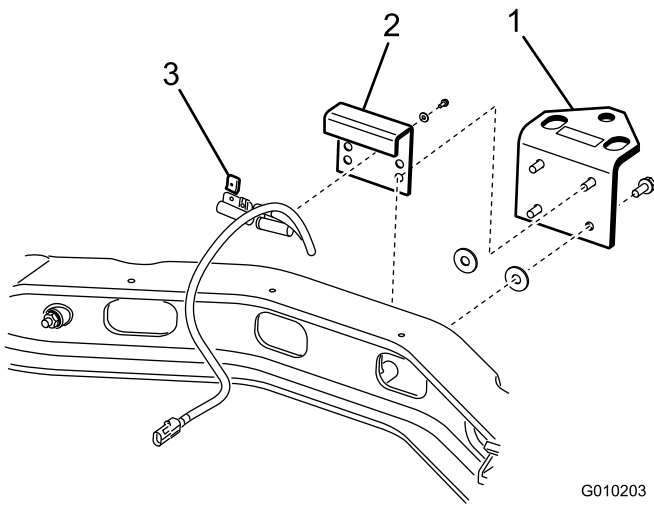

Figure 7
1. Remove capscrews securing hitch plate to rear axle (Figure 7). Using the lower set of mounting holes, loosely mount 2 washers and level switch bracket to rear axle with capscrews removed. The washers are to be positioned between the hitch plate and axle.